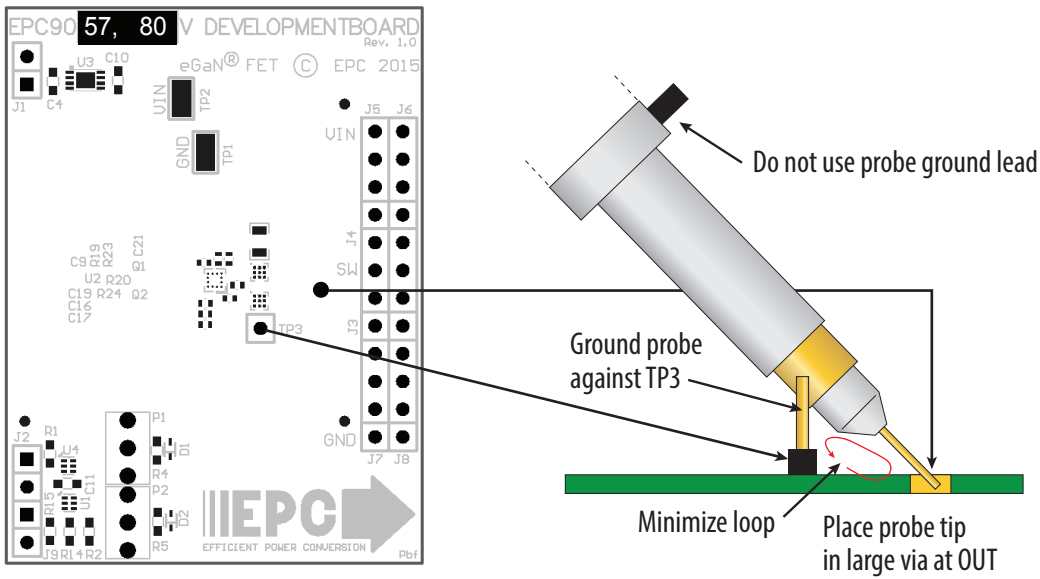

Figure 3: Proper Measurement of Switch Node –  $V_{SW}$
**NOTE.** When measuring the high frequency content switch node (OUT), care must be taken to avoid long ground leads. Measure the switch node (OUT) by placing the oscilloscope probe tip through the large via on the switch node (designed for this purpose) and grounding the probe directly across the GND terminals provided. See Figure 3 for proper scope probe technique.